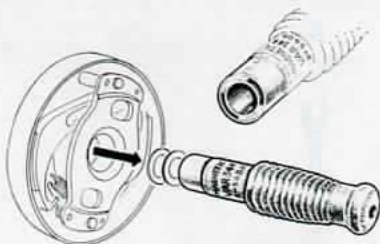

Fig. 5
- Withdraw the shims (magnetic extractor, 100007) (fig. 5).